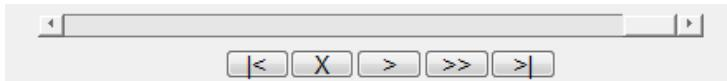
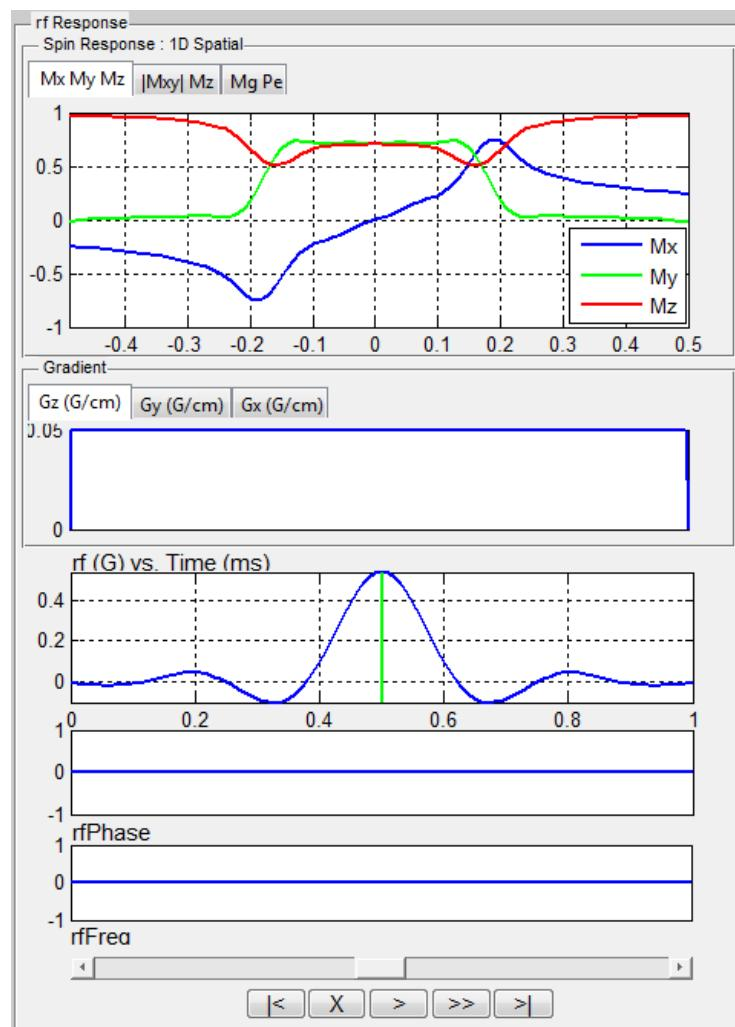

Figure 5.5: The Playback Control Group for Spin Response
Figure 5.6: An Intermediate Slice Profile in The Middle of RF Pulse
MRiLab also plots the RF and gradient waveform. In MRiLab, the property of a RF pulse contains RF amplitude (T), RF phase (rad) and RF frequency (Hz). The RF frequency is defined as the spin Larmor frequency minus the laboratory frequency of the RF pulse. Notice that in those figures, for display purpose, the gradient amplitude is in units of G/cm and RF amplitude is in units of G. Both time axes are in units of milliseconds. At the bottom of this interface, there is a group of pushbuttons (Figure 5.5) allowing the user to investigate intermediate spin response during a applied RF and gradient (Figure 5.6).